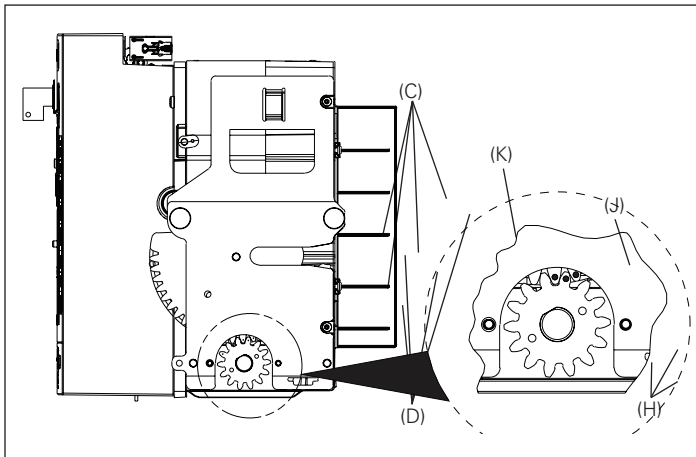
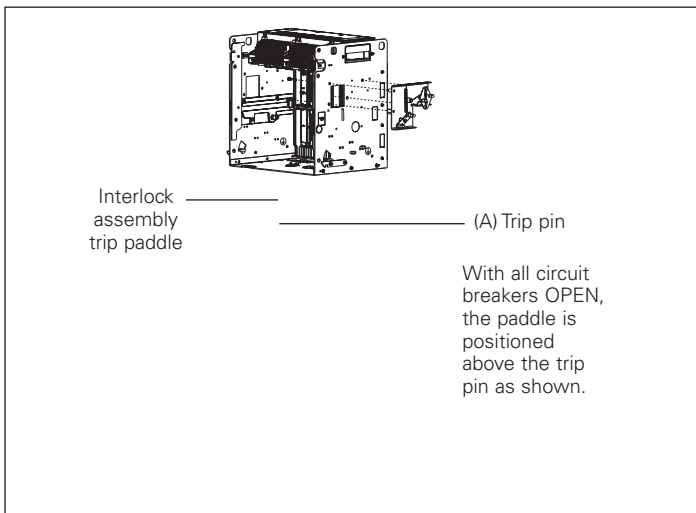

Figure 7. Details for Steps 5 and 6
Figure 8. Details for Step 6
Fasten the interlock assembly (J) to the fixed mounting bracket (K) using four M6 x 12 mm hex bolts (C) and four lock washers (D) as shown in Figure 7. Torque to 4,5–5,6 N·m (40–50 in-lb).
Fasten the fixed mounting bracket (K) to the right side fixed breaker mounting foot using three M6 x 10 mm thread-forming screws (H) as shown in Figure 7. Torque to 7,3–9,6 N·m (65–85 in-lb). Ensure that once attached to the breaker, the trip paddle is above the trip pin on the trip bar as shown in Figure 8.
Re-install M5 x 12 mm screw as shown in Figure 7. Torque to 2,2 N·m (20 in-lb).